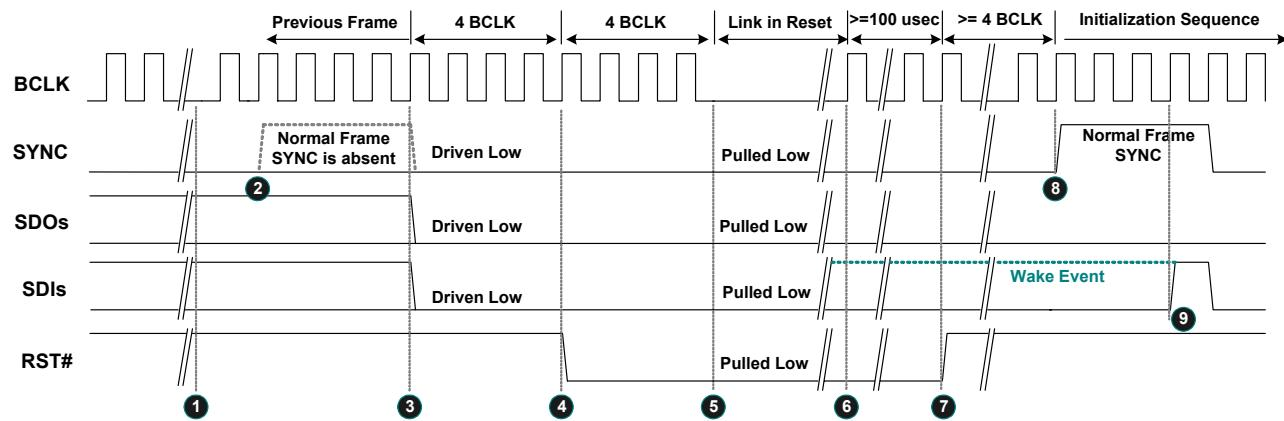

Figure 12. Link Reset Timing
3. Software initiates power management sequences. Figure 12, page 19, shows the ‘Link Reset’ timing including the ‘Enter’ sequence (①~⑤) and ‘Exit’ sequence (⑥~⑨)